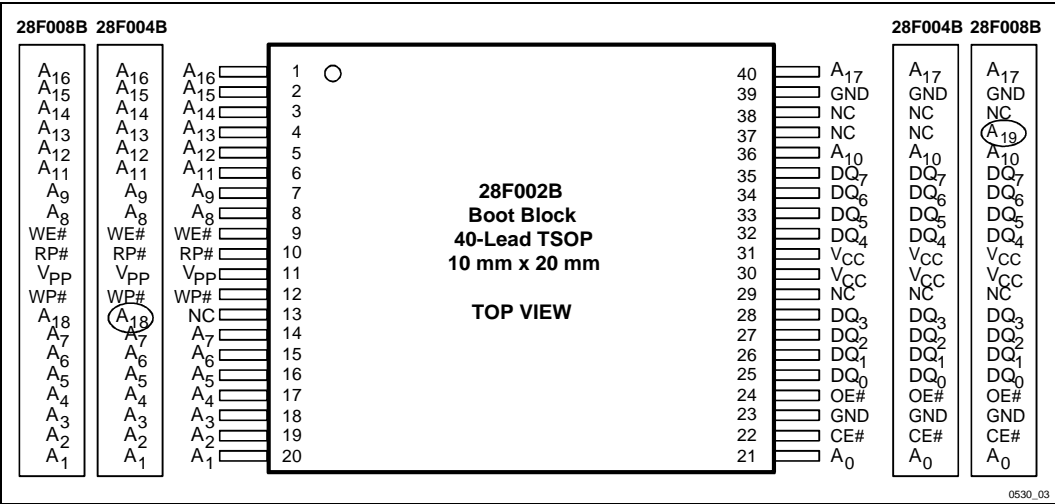
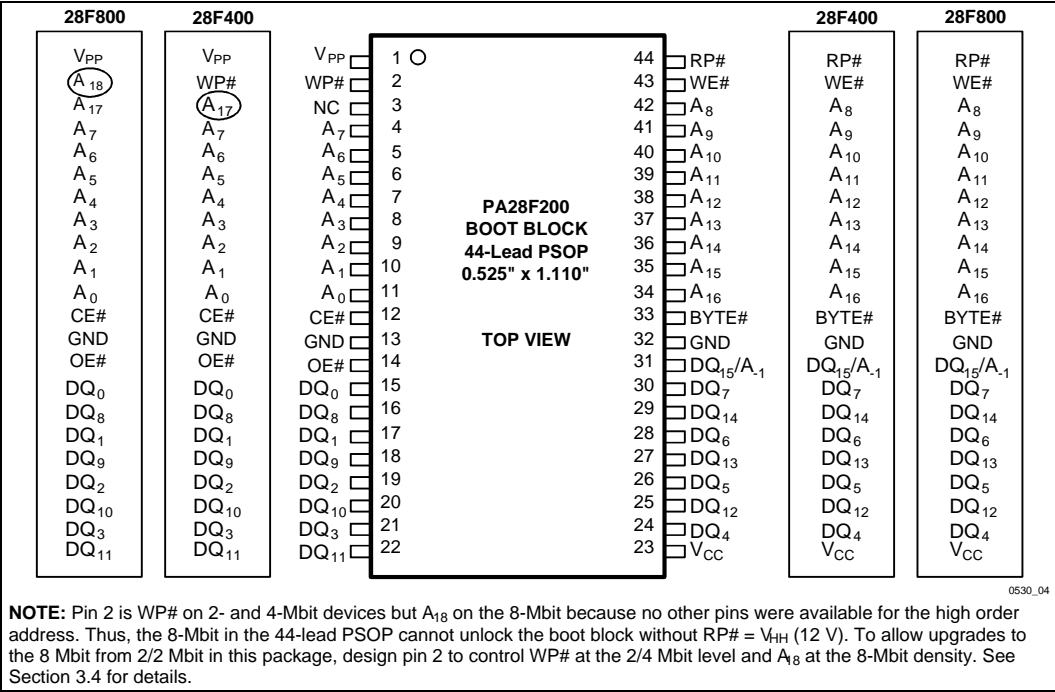
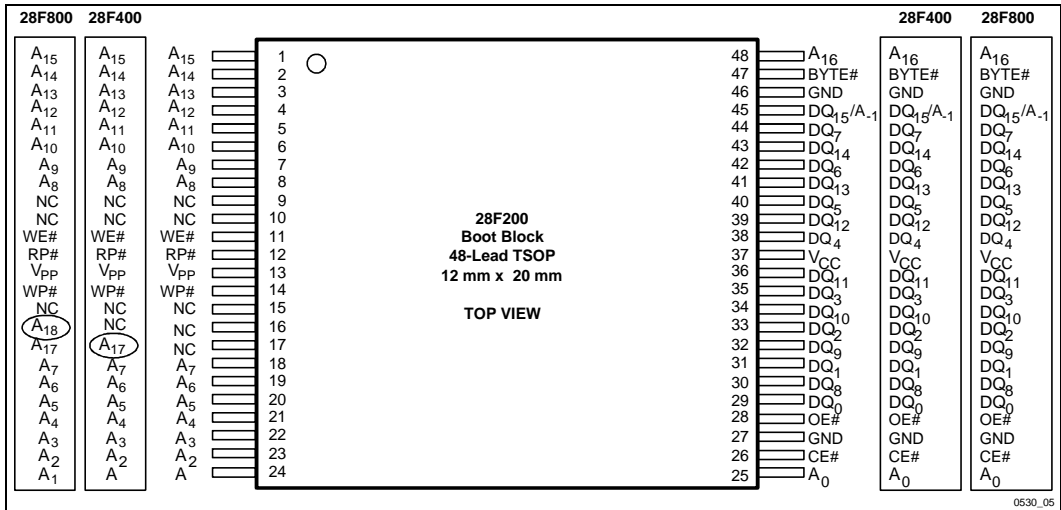
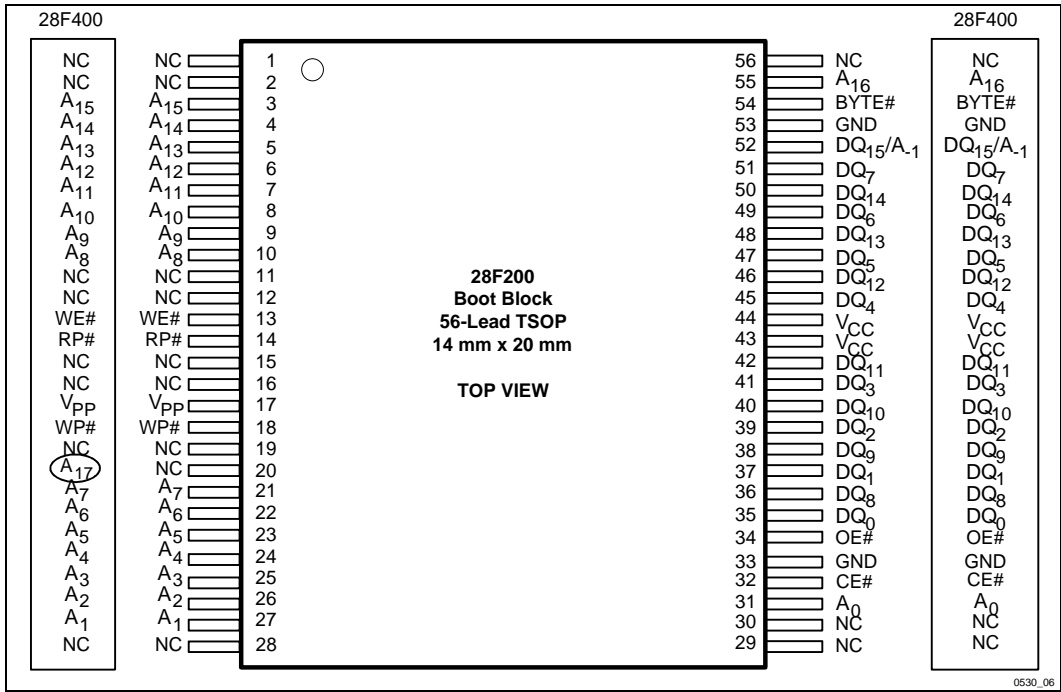

Figure 3. The 40-Lead TSOP Offers the Smallest Form Factor for Space-Constrained Applications
Figure 4. The 44-Lead PSOP Offers a Convenient Upgrade from JEDEC ROM Standards
Figure 5. The 48-Lead TSOP Offers the Smallest Form Factor for x16 Operation
Figure 6. The 56-Lead TSOP Offers Compatibility between 2 and 4 Mbits
-002	<p>Status changed from Product Preview to Preliminary</p> <p>28F200CV/CE/BE references and information added throughout.</p> <p>2.7 V CE/BE specs added throughout.</p> <p>The following sections have been changed or rewritten: 1.1, 3.0, 3.2.1, 3.2.2, 3.3.1, 3.3.1.1, 3.3.2, 3.3.2.1, 3.3.3, 3.3.4, 3.6.2.</p> <p>Note 2 added to Figure 3 to clarify 28F008B pinout vs. 28F008SA.</p> <p>Sentence about program and erase WSM timeout deleted from Section 3.3.3, 3.3.4.</p> <p>Erroneous arrows leading out of error states deleted from flowcharts in Figs. 9, 10.</p> <p>Sections 5.1, 6.1 changed to "Applying V_{CC} Voltages." These sections completely changed to clarify V_{CC} ramp requirements.</p> <p>I_{PPD} 3.3 V Commercial spec changed from 10 to 5 μA.</p> <p>Capacitance tables added after commercial and extended DC Characteristics tables.</p> <p>Test and slew rate notes added to Figs. 12, 13, 19, 20, 21.</p> <p>Test configuration drawings (Fig. 14, 22) consolidated into one, with component values in table. (Component values also rounded off).</p> <p>t_{ELFL}, t_{ELFH}, t_{AVFL} changed from 7 to 5 ns for 3.3 V BV-60 commercial and 3.3 V TBV-80 extended, 10 to 5 ns for 3.3 V BV-80 and BV-120 commercial.</p> <p>t_{WHAX} and t_{EHAX} changed from 10 to 0 ns.</p> <p>t_{PHWL} changed from 1000 ns to 800 ns for 3.3 V BV-80, BV-120 commercial.</p> <p>t_{PHEL} changed from 1000 ns to 800 ns for 3.3 V BV-60, BV-80, and BV-120 commercial.</p>
-005	<p>Corrections: Figure 4, corrected pin designation 3 to "NC" from A₁₇ on PA28F200.</p> <p>Corrected typographical errors in Ordering Information.</p> <p>Added New Design Recommendations section to cover page.</p> <p>Updated Erase Suspend/Resume Flowchart</p>
The 28F200 products are available in a ROM/EPROM-compatible pinout and housed in the 44-lead PSOP (Plastic Small Outline) package, the 48-lead TSOP (Thin Small Outline, 1.2 mm thick) package and the 56-lead TSOP as shown in Figures 4, 5 and 6, respectively. The 28F002 products are available in the 40-lead TSOP package as shown in Figure 3.
Intel's SmartVoltage Boot Block architecture provides upgrade paths in every package pinout to the 4 or 8-Mbit density. The 28F002B 40-lead TSOP pinout for space-constrained designs is shown in Figure 3. The 28F200 44-lead PSOP pinout follows the industry-standard ROM/EPROM pinout, as shown in Figure 4. For designs that require x16 operation but have space concerns, refer to the 48-lead pinout in Figure 5. Furthermore, the 28F200 56-lead TSOP pinout shown in Figure 6 provides compatibility with BX/BL family product packages.
This product family features an asymmetrically-blocked architecture providing system memory integration. Each erase block can be erased independently of the others up to 100,000 times for commercial temperature or up to 10,000 times for extended temperature. The block sizes have been chosen to optimize their functionality for common applications of nonvolatile storage. The combination of block sizes in the boot block architecture allow the integration of several memories into a single chip. For the address locations of the blocks, see the memory maps in Figures 4 and 5.